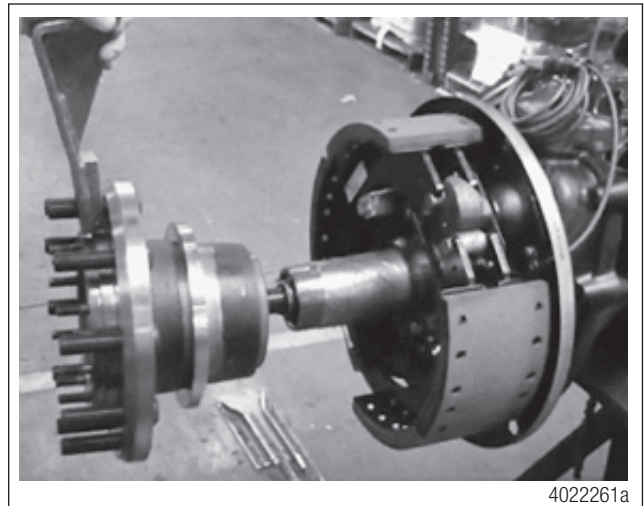

Figure 24
2. Install the hub assembly on the spindle with the help of a crane and hoist. Push the hub in all the way to ensure it is seated against the spindle. Figure 24.